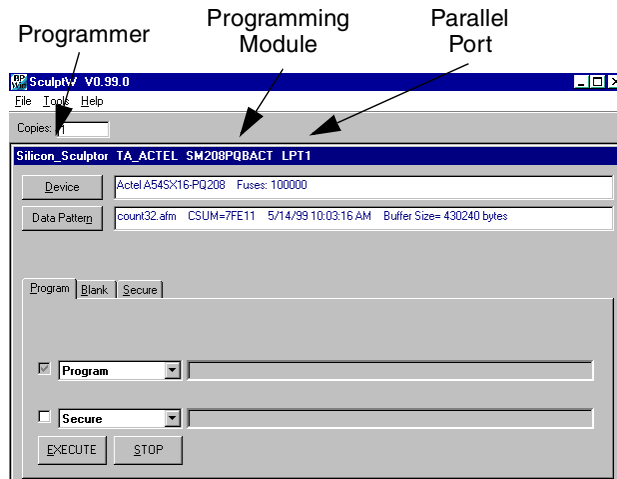

Figure 1-2. SculptW Detects Silicon Sculptor
- **Programmer detected or selected.** In the example shown in Figure 1-2 the selected programmer is “TA_ACTEL.”
- **The technology adapter and socket module detected by SculptW.** In the example shown in Figure 1-2 the technology and socket module is “SM208PQBACT.”
- **The location of the parallel port that detects the programmer.** In the example shown in Figure 1-2, the parallel port is “LPT1.”